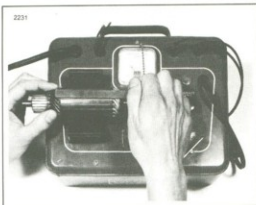

Figure 5-18. Armature Short Test
6. Test the armature for short circuits using an armature growler as shown in Figure 5-18. Place the armature on the growler and turn it on.